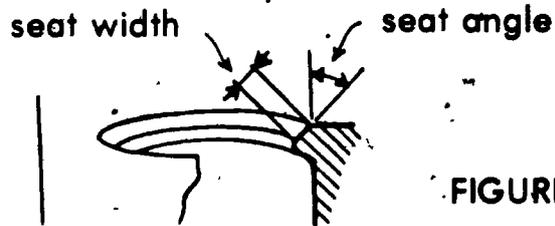

FIGURE 8
2. Check seat width and angle (Figure 8)